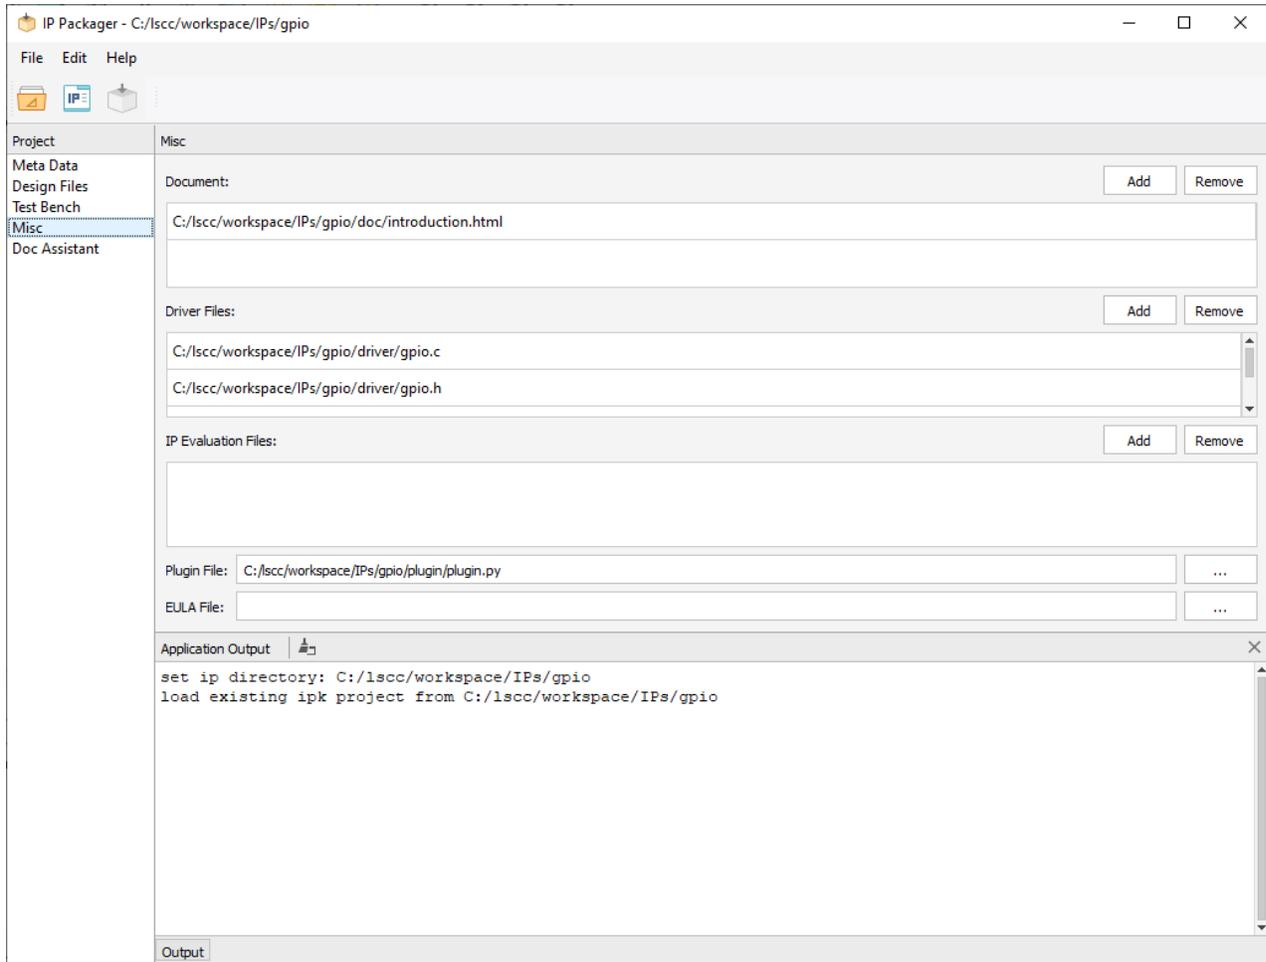

Figure 3.27. IP Packager with Misc Details
- From the IP Packager Project area, click **Misc**. The Misc related information is shown in detail (Figure 3.27). Configure Misc information as desired.